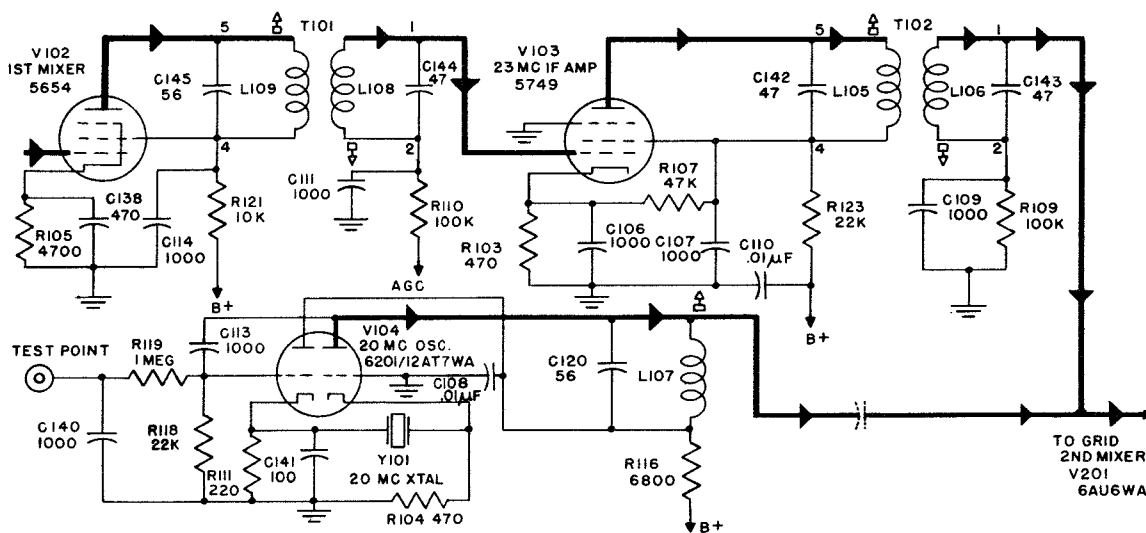

Figure 2-5. Simplified Schematic, First Mixer, 23 Mc IF Amplifier
(4) FIRST MIXER.—As indicated by figure 2-5, this mixer uses a 5654 tube (V102) to mix the output of the RF amplifier with the output of the oscillator/multiplier, to provide the first IF of 23 Mc. The output of the RF amplifier and the oscillator/multiplier are coupled into the grid of the first mixer V102. The proper grid bias for proper mixing is obtained by the use of cathode resistor R105 which is by-passed by capacitor C138. The plate and screen voltages are obtained through an isolation network which consists of R121 and by-pass capacitor C114. The plate circuit is tuned to the desired first IF of 23 Mc by means of C145 and slug tuned coil L109.
(5) 23 MC AMPLIFIER.—This amplifier, shown in figure 2-5, utilizing one type 5749 tube (V103) and two permeability tuned 23 Mc IF transformers, T101 and T102, has been designed for approximate unity gain and provides only sufficient amplification to compensate for normal circuit losses. The transformers T101 and T102, each with two adjustable iron cores, have their primaries tuned from the top and their secondaries from the bottom. The 23 Mc signal is coupled from the plate circuit of the 1st mixer V102 by means of mutual inductive coupling from L109 to L108 of T101. L108 and C144 are resonated to 23 Mc and couple the signal into the grid of the 23 Mc amplifier V103. AGC voltage is applied to the grid of V103 through a decoupling or isolation network consisting of R110 and by-pass capacitor C111. Proper bias for class A operation of the 23 Mc IF amplifier is obtained by cathode resistor R103 and is by-passed by capacitor C106. Plate and
(6) 20 MC OSCILLATOR.—This oscillator, shown in figure 2-5, operating at 20 Mc, combines in the second mixer with the 23 Mc IF signal from the first IF amplifier to produce the 3 Mc second IF frequency. The oscillator circuit is similar to that of the frequency-determining oscillator, excepting that only the crystal frequency is used, and all harmonics are by-passed. In this circuit, also, provision is made to permit checking of the grid voltage at a test point on top of the chassis for tuning purposes. The oscillator tube, V104, is a type 6201/12AT7WA, and the circuit is resonated to 20 Mc by means of the permeability tuned, shielded RF coil L107, and capacitor C120. Part of the oscillator output is coupled through capacitor C113 to the first section of the dual triode V104, causing grid current to flow through grid resistor R118 causing a DC voltage to be developed across it. This voltage is filtered through R119 and appears across C140 at the 20 Mc test point. The first section of the dual triode V104 acts as a cathode follower because the plate is by-passed by C108 and the load resistor R111 in the cathode circuit. The 20 Mc energy is permitted to pass through the 20 Mc crystal